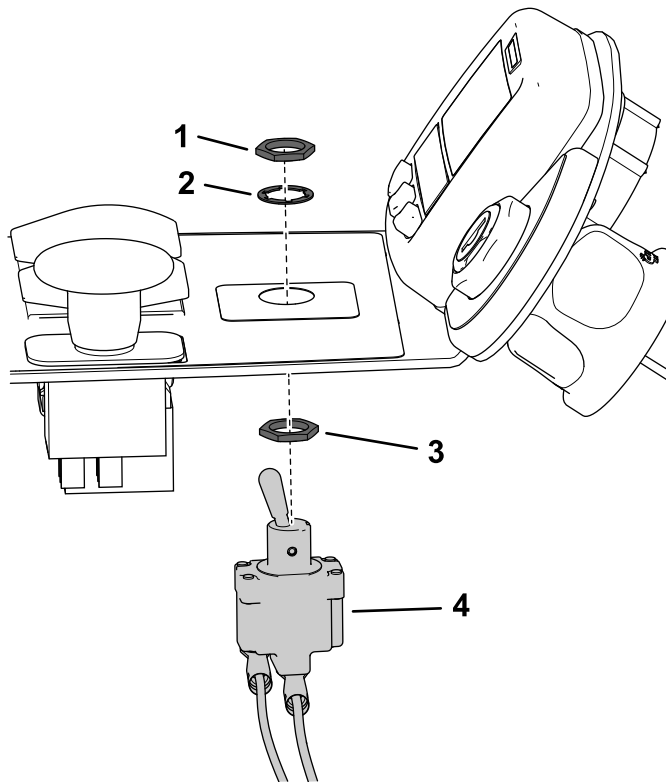

Figure 22
8. Install the toggle switch into the 13 mm (1/2 inch) hole from the bottom of the console; refer to Figure 22 for the correct hex locknut and washer orientation.